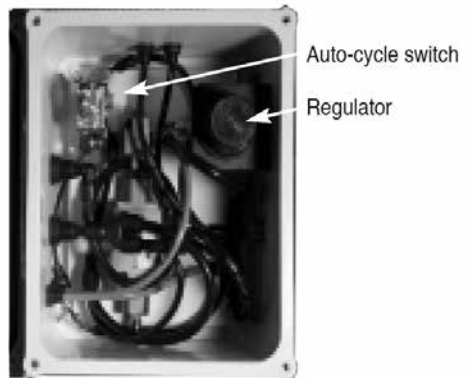

Figure 2
The air gauge on the Quick Crimp Pneumatic shows the air regulator setting when the machine is idle. This may be different from the supply line pressure—the regulator is able to increase pressure by restricting the input orifice size. When the machine is idle the regulator should show a reading of 85 or more in most cases. The regulator pressure is easily adjusted with the regulator knob shown in figure 2. Turn the knob clockwise (CW) to increase pressure and counter-clockwise (CCW) to decrease pressure.